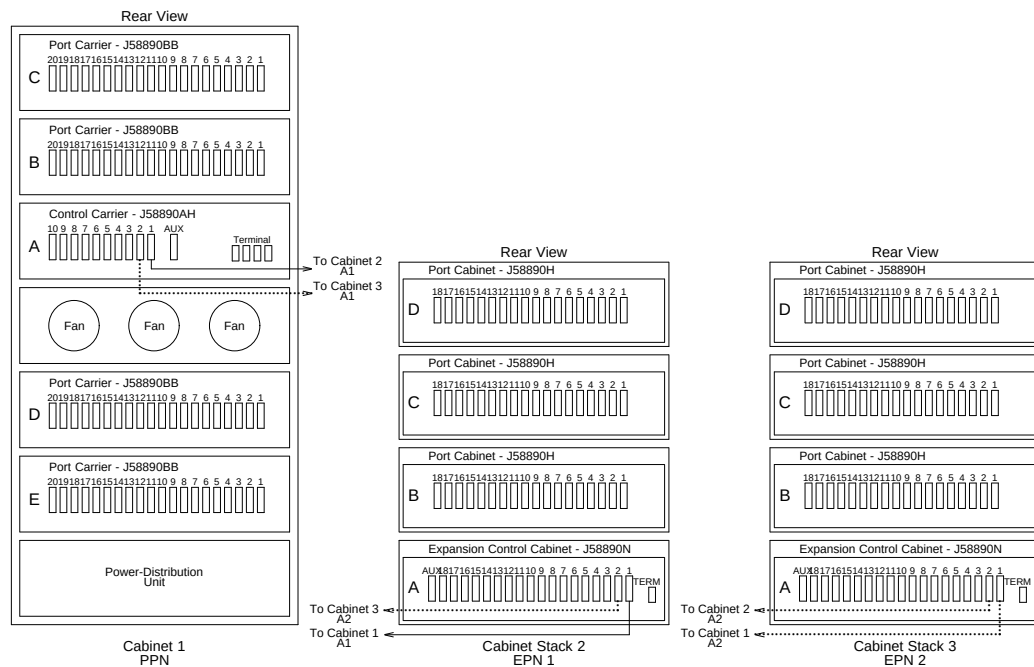
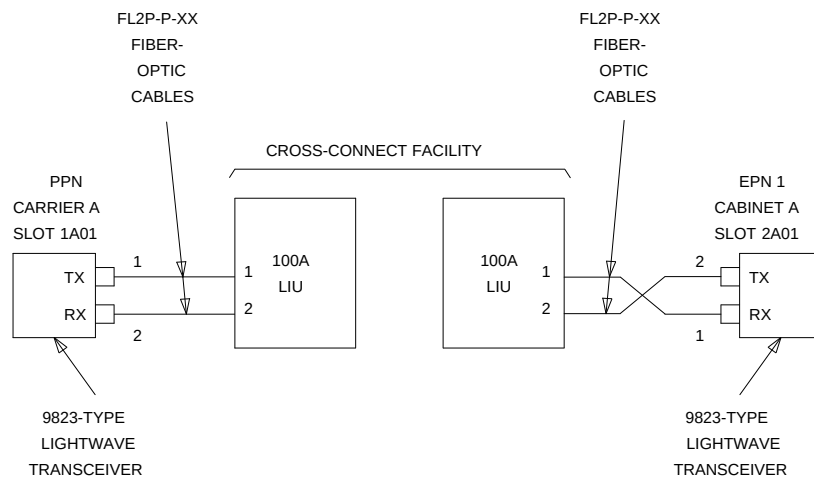
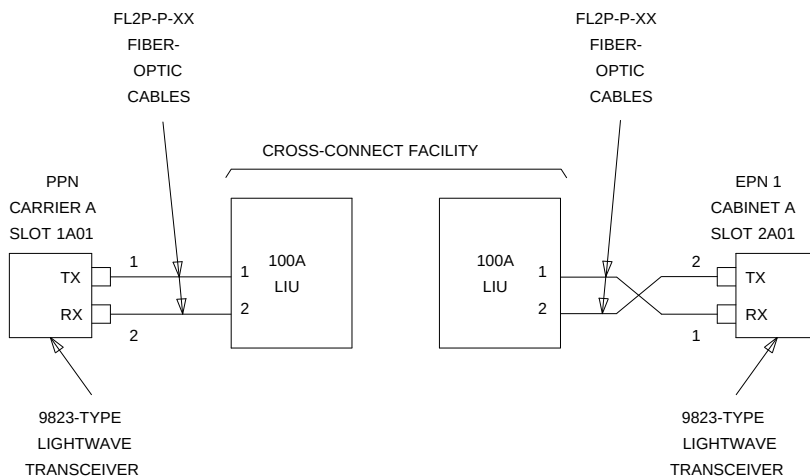
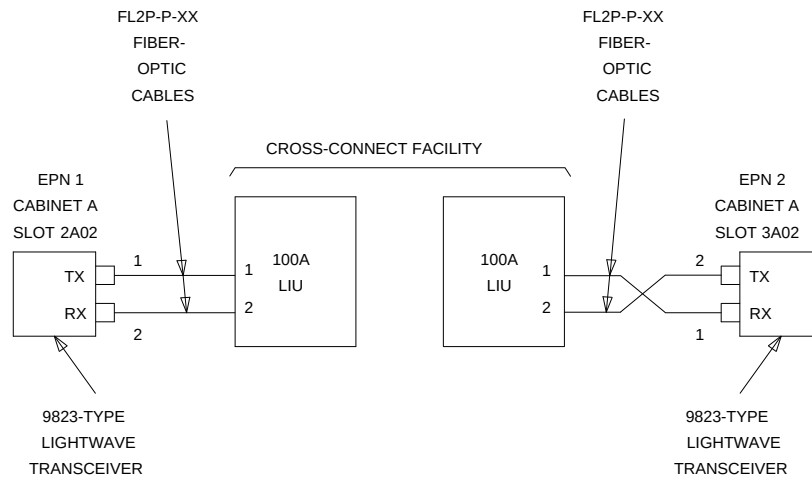

Figure 8-16. Standard-Reliability DEFINITY ECS Release 5 with Two or Three Port Networks
Figure 8-17. Fiber-Optic Connections PPN to EPN1
Figure 8-18. Fiber-Optic Connections PPN to EPN2
Figure 8-19. Fiber-Optic Connections EPN1 to EPN2
1. Behind control carrier A of the multicarrier PPN (Figure 8-16 on page 8-39, Figure 8-17, Figure 8-18, and Figure 8-19):